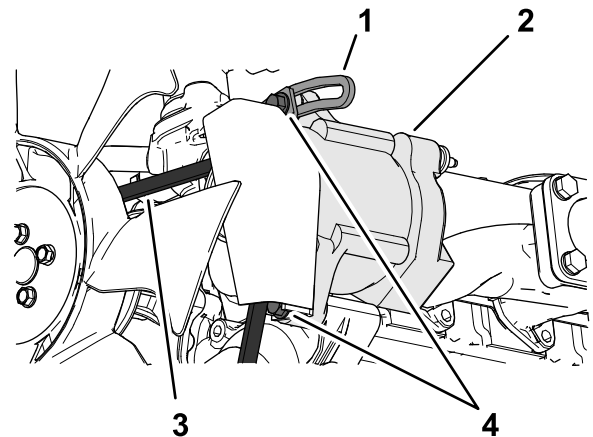

Figure 89
3. Loosen the bolt at the pivot point of the alternator; loosen the bolt that secures the alternator to the slotted brace (Figure 89).